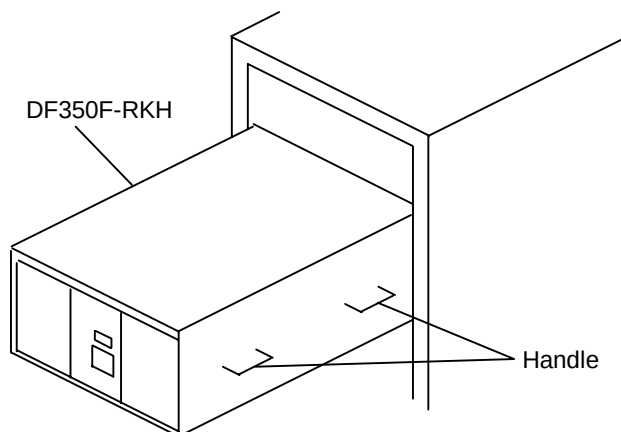

Figure 3.4.5 Installing the Subsystem in the Rack
3.4.5 Installing the subsystem into the rack (See Figure 3.4.5.)